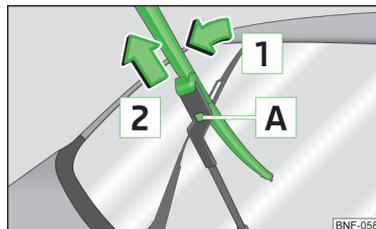

Fig. 122
- › Raise the windscreen wiper arm from the rear window and slightly tilt the windscreen wiper blade towards the wiper arm, arrow **1** » Fig. 122.